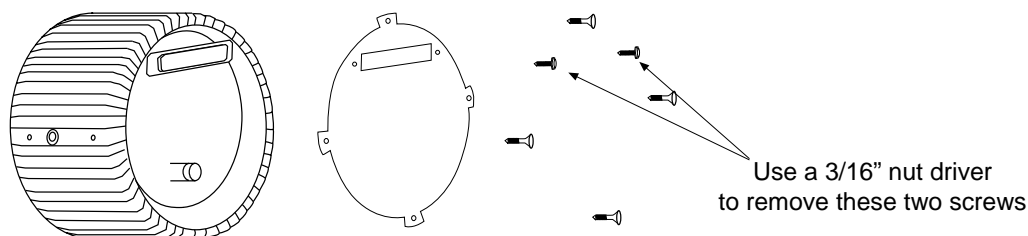

Figure 69. Removing the Back Panel
1. Remove the back cover of the camera (see Figure 69). It is secured by four Phillips-head screws and by the two connector slide-latch posts, which can be removed using a 3/16" nut driver.